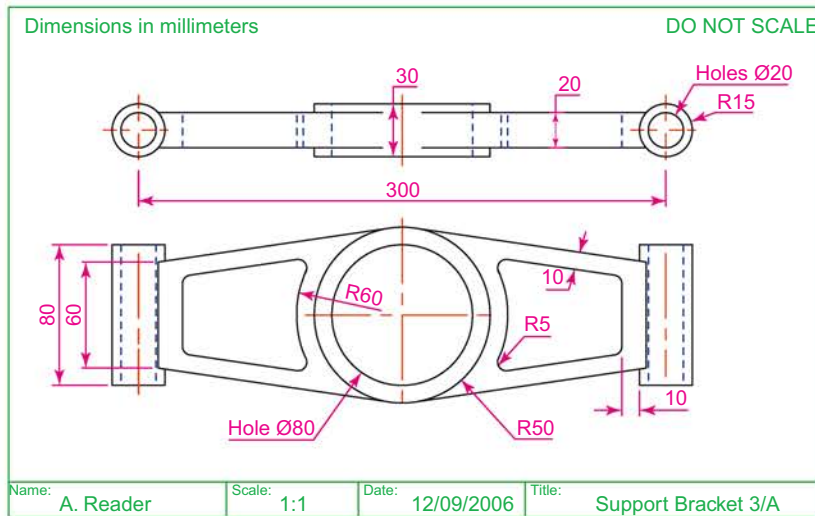

Fig. 10.10 Working drawing for the second example
- In the **Top** viewport construct an outline of the web of the Support Bracket shown in Fig. 10.10. With the **Extrude** tool, extrude the parts of the web to a height of 20.